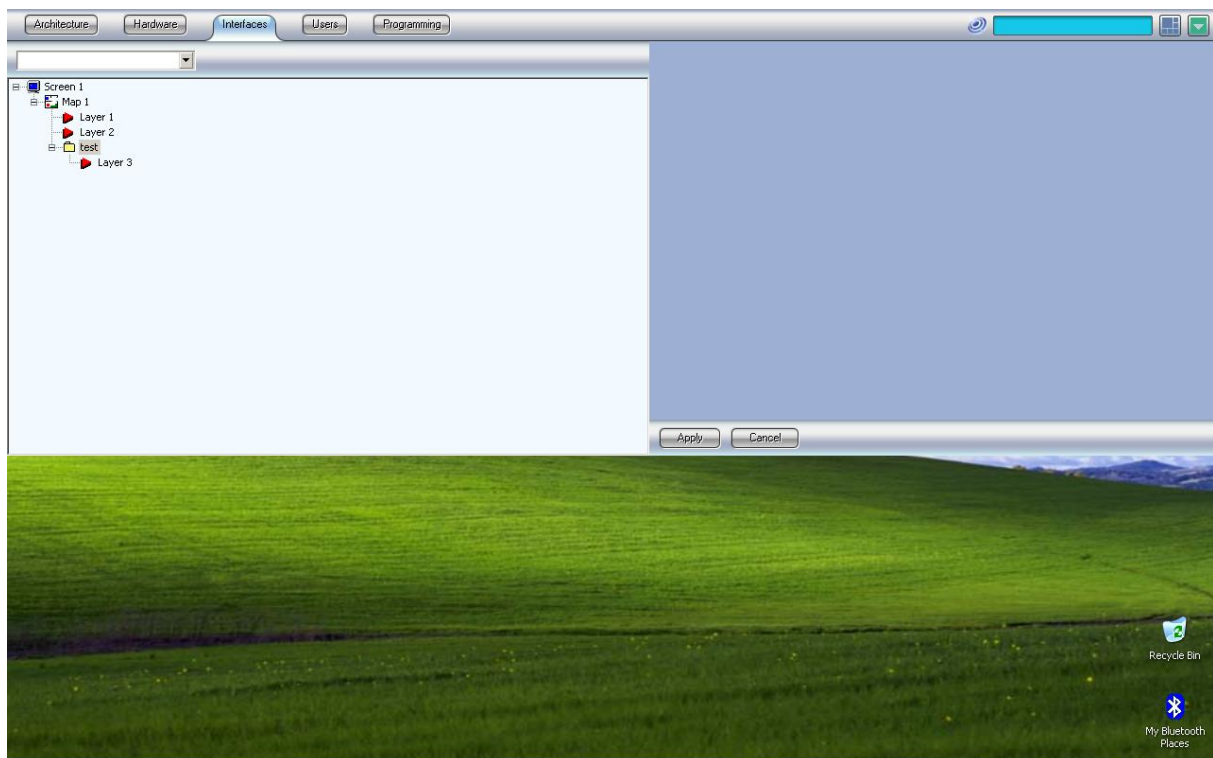

fig.27
8) It is possible to make a logical classification of the layers using folders (fig. 27). This is done with right click of the mouse on “Map 1” and submenu “create folder”. To move a layer to a folder the user should right click on the layer and use the “move to folder” submenu.